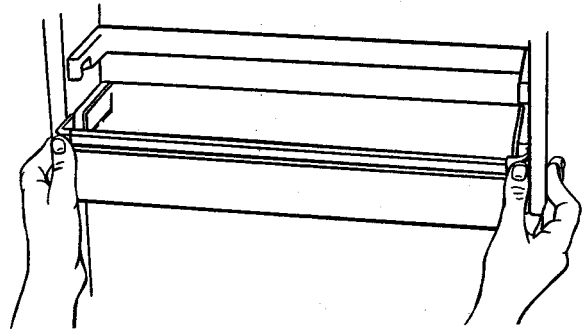

Figure 43
- To reinstall, use one hand at each side of bucket. Slide bucket into grooves on door. Push gently with thumbs until tabs snap and lock into place. See Figure 43.